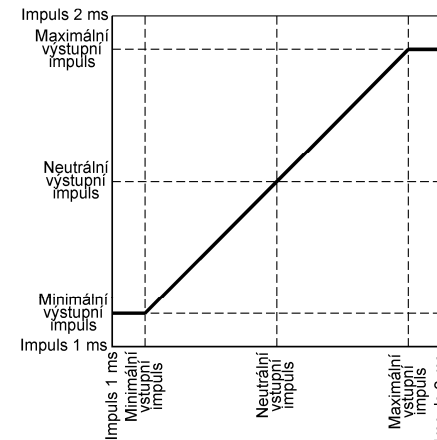

Fig. 1: Linear conversion
4) Linear pulse conversion (Fig. 1):